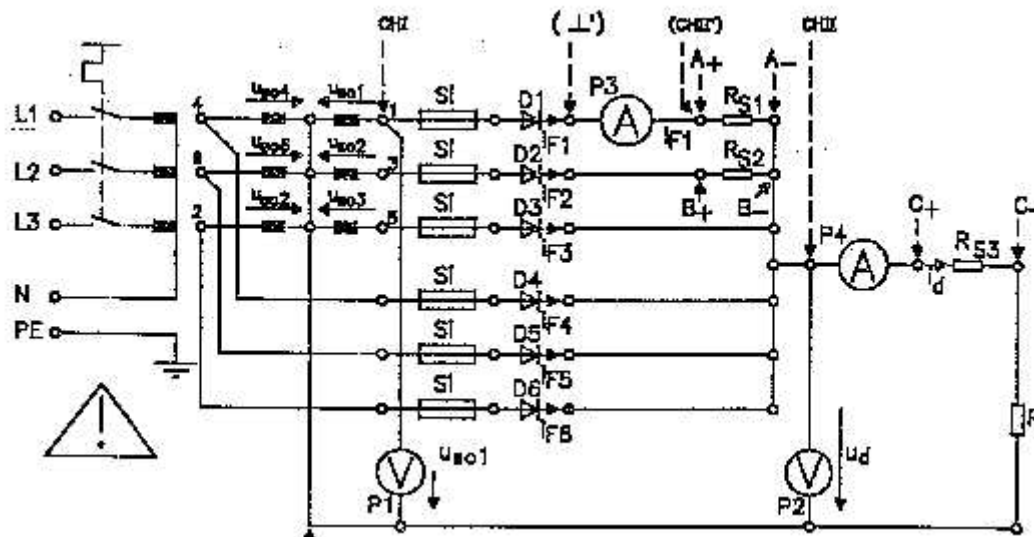

Figure 2. Two mid-point pulse rectifier with ohmic load of 100
1. Connect the power circuit as shown in Figure 2, while using the supply voltage of 45V and a load resistance of 33 Ω , (three 100 Ω resistance connected in parallel)
- ✓ For the same circuit of Figure 2 insert in series with the resistance of 33 an inductance of value 50 mH.